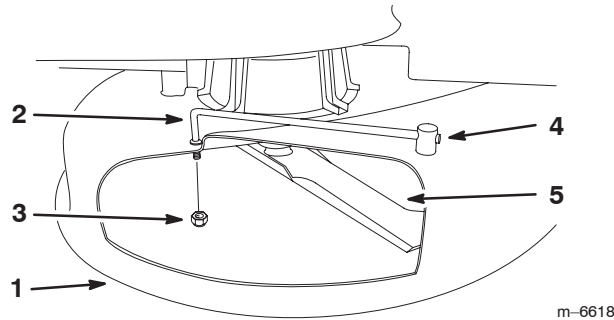

Figure 10
4. Insert the new pivot rod into the short stand-off on the deck. Secure the rear end of rod into the mower with a nut (3/8 inch) (Fig. 10).
1. Hold the blade using a rag or thickly-padded glove (Figures 10 and 11).